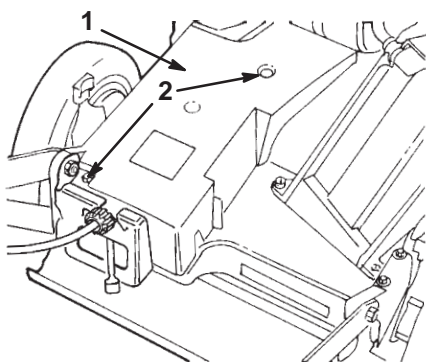

Figure 3
1. Remove the 2 bolts that secure the belt cover to the deck (Fig. 3). Set the cover and the bolts aside.
10. Install the belt cover (Fig. 3).